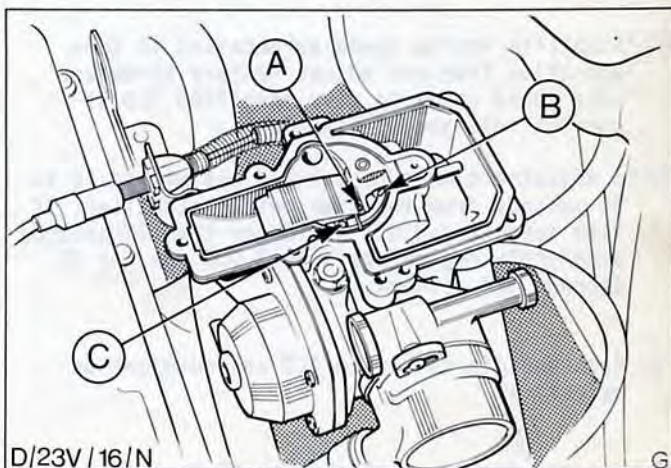

Fig.41. V.V. carburettor with top cover removed.
- IMPORTANT:** Ensure air pressure is NOT directed into accelerator pump air bleed, air valve vent or pump outlet, Fig.41, as this will result in diaphragm damage.